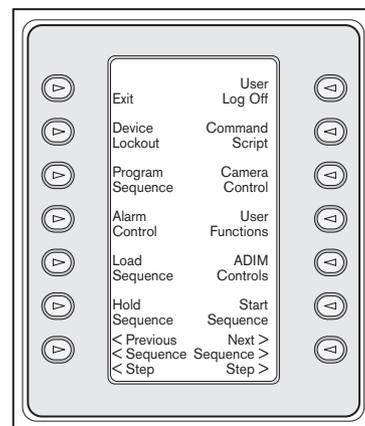

FIGURE 4-2 Allegiant Main Control Menu
- Following successful user log-on, the softkey display shows the *Allegiant Main Control* menu as in FIGURE 4-2.